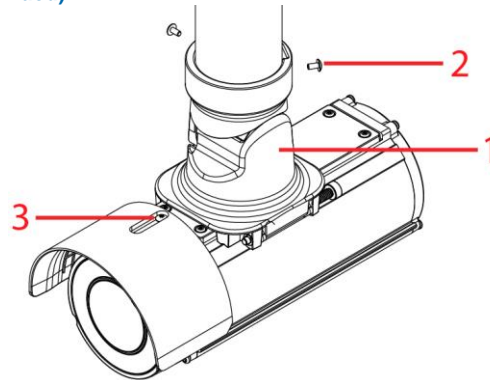

Figure 11
- F. Place the mounting plate arm and camera into the pendant mount adaptor (1) (Figure 11) and securely attach the two M3x0.5P (L = 6mm) screws with the T10 security Torx wrench.
**Note:** When the camera is mounted inverted to a pendant 1 ½ " NTP pipe you must remove the sun shield hood by unscrewing the M3x0.5P (L = 8mm) screw with the T10 security Torx wrench (3) (Figure 11) and relocate the sun shield with screw as per the sun shield hood located in Figure 11.